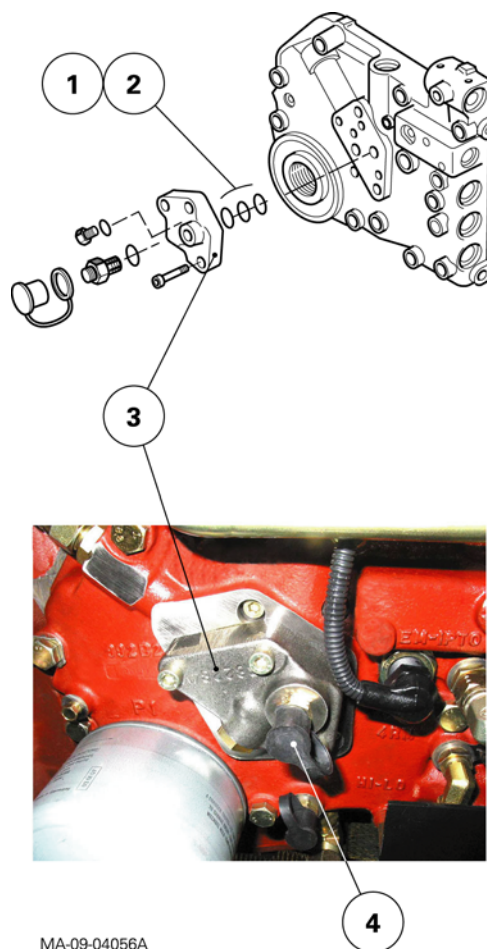

Fig. 12
- For this tractor version, the braking valve (spool valve) is replaced by a cover plate (3) (Fig. 12).
- As with the trailer braking version, the oil tightness between components is ensured by O'rings (1) (2).
- A test connector (4) also allows to check the high pressure of the pump.